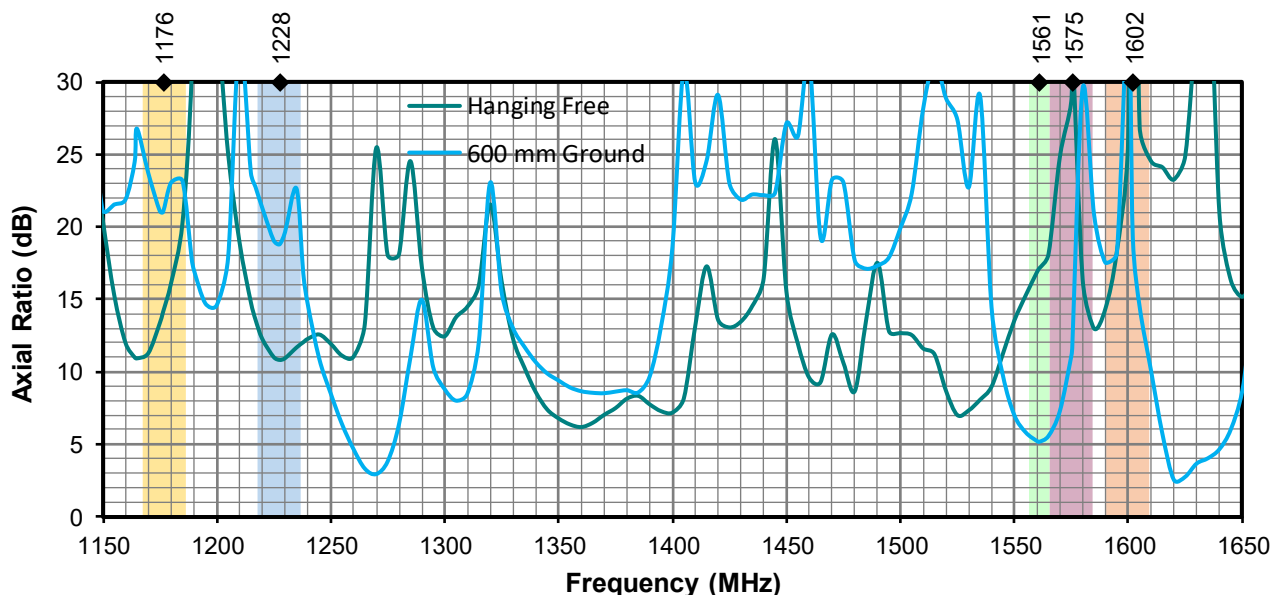

Figure 23. Antenna Axial Ratio, GNSS
Axial Ratio (**Figure 23**) is the ratio of orthogonal components of an E-field. A circularly polarized field is made up of two orthogonal E-field components of equal amplitude (and 90 degrees out of phase). Axial ratio provides a measure of the quality of antenna circular polarization, the lower the value (in dB), the better the circular polarization. The ideal value of the axial ratio for circularly polarized fields is **0 dB (1)**. In practice, no antenna is perfectly circular in polarization, less than **3 dB** might be an adequate value.